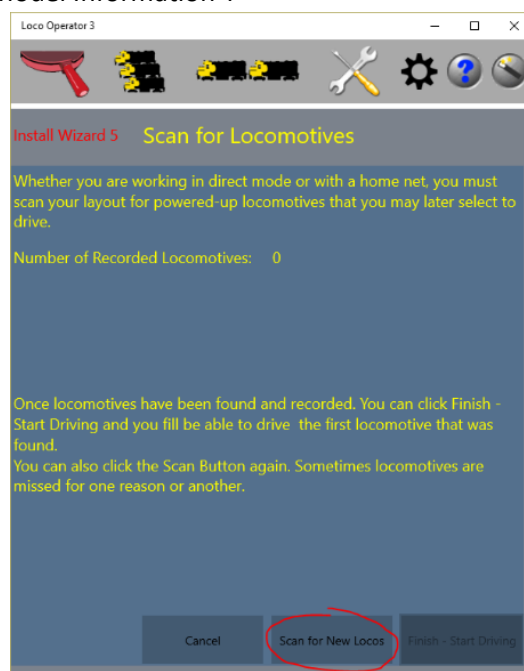
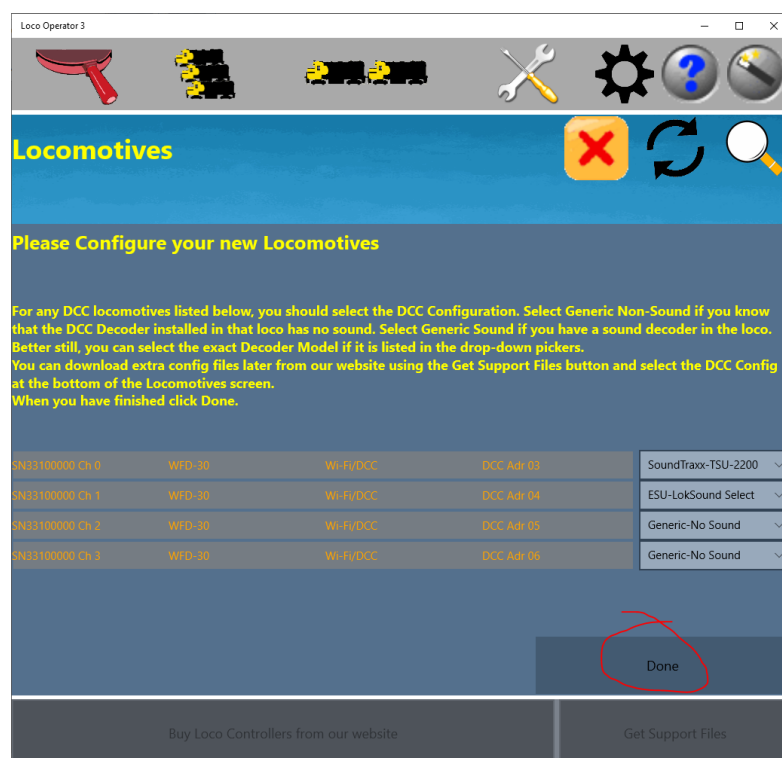

Figure 41 Install Wizard Page 5
Figure 42 Install Wizard - New Locomotives Found
- (3) You now see the Install Wizard 5 screen as Figure 41. This screen allows you to scan for locomotives or other WifiTrax controllers. Click the Scan for New Locos button and click Continue on the pop-up. Your new locomotives should now appear as entries in a list as Figure 42. For WFD-30, you will see the default roster (4 locos out of 16 maximum), there is a pop-up allowing you to select the DCC Decoder that you have installed. The default is Generic-Sound. When you have made your selections click Done. If your decoder is not in the drop-down list, select a generic option and see the section “Customizing Decoder Model Information”.